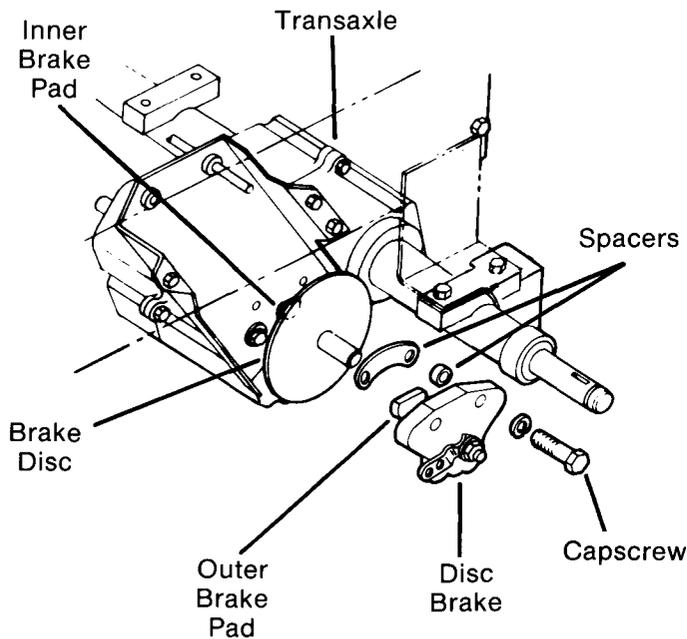

FIG. 60
- F. Remove two capscrews securing disc brake to transaxle. Pay special attention to the order of parts (spacers, outer brake pad and back-up plate) when removing disc brake. Remove disc brake. (Fig. 60)
- G. Slide brake disc off transaxle output shaft, inner brake pad can be removed at this time. (Fig. 60)
- A. Remove two capscrews securing disc brake to transaxle. (Fig. 60) Disc Brake will pivot on brake adjustment rod.
**NOTE:** Location and position of both flat and tube type spacers on inside of disc brake for reassembly. (Fig. 60)
- C. Pull brake disc off of transaxle output shaft, inner brake pad can now be removed. (Fig. 60)
NOTE: Location and position of both flat and tube type spacers on inside of disc brake for reassembly. (Fig. 60)